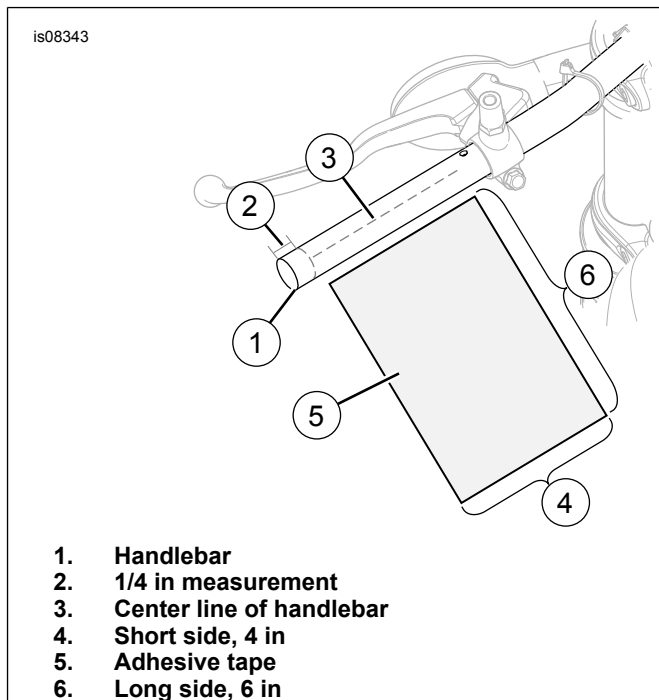

Figure 3. Left Hand Grip
- To ease installation. See Figure 3. Make a mark 1/4 in (2) from the end of the handlebar. Keep the adhesive tape along this line while applying. To aid in alignment make a mark (3) straight along handlebar.
- See Figure 3. Align one of the short sides (4) of the adhesive tape (5) with line (3).